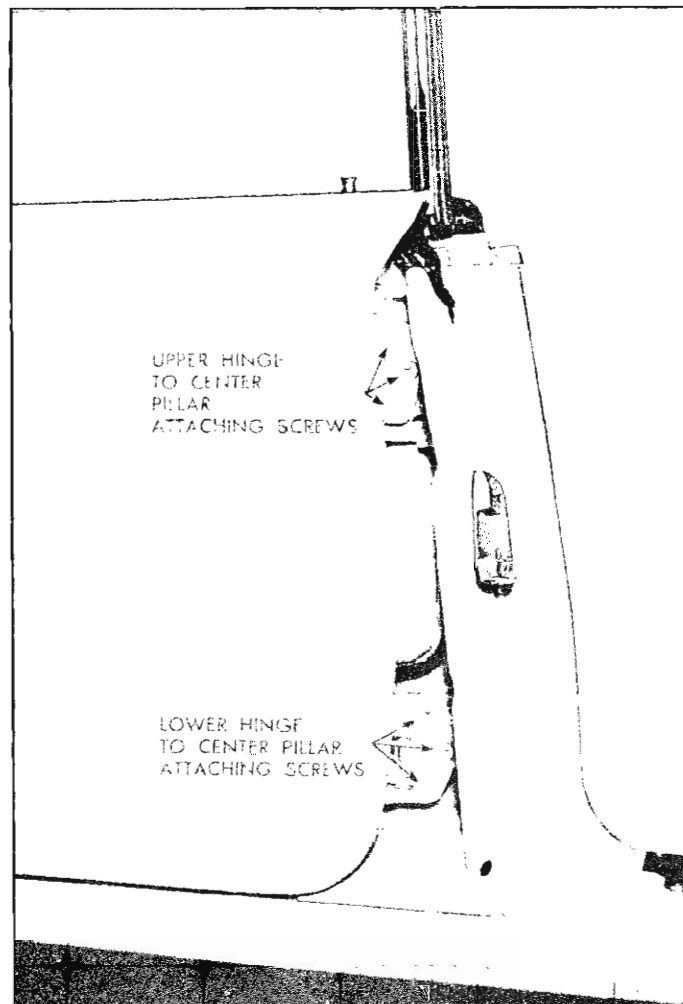

Fig. 13—Rear Door-to-Center Pillar Attachment
- To adjust door fore or aft, loosen hinge to center pillar attaching screws (see Figure 13). Adjust door fore or aft as required and tighten screws and bolts.